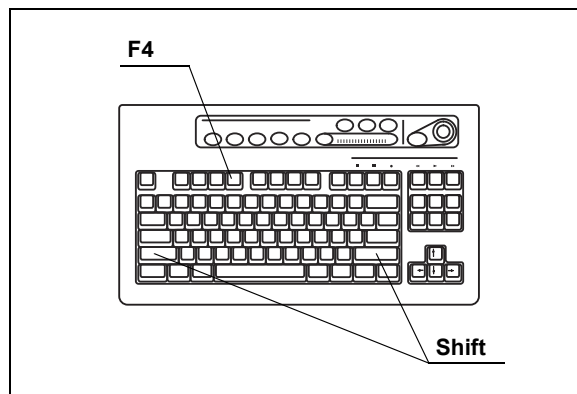
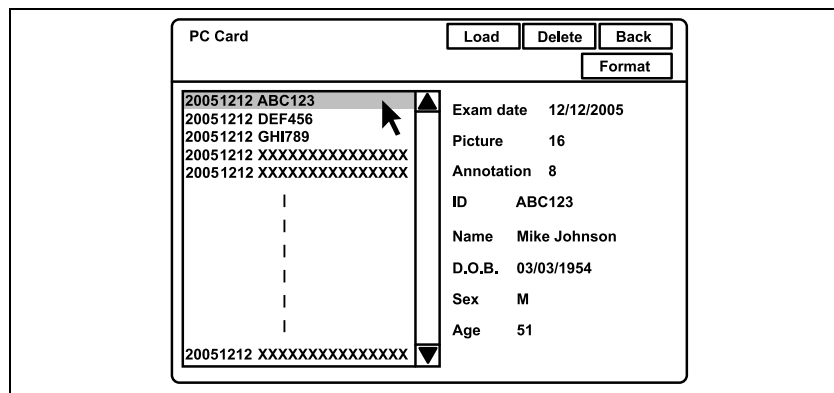

Figure 5.60
Figure 5.61
2. Press the "Shift" and "F4" keys together (see Figure 5.60). The message "Please wait" is displayed on the monitor, then the folder list screen appears (see Figure 5.61).